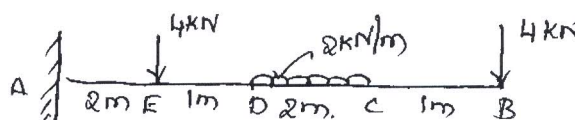

Fig.Q5(b)
- b. Draw SFD and BMD for the cantilever beam shown in Fig.Q5(b). (08 Marks)